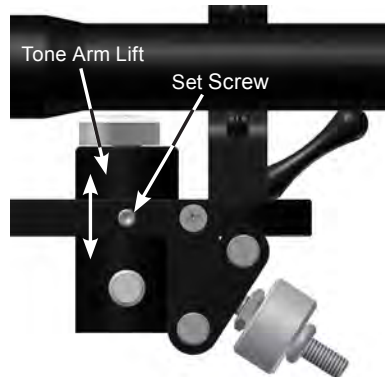

Figure 32
2. Using the appropriate tool, carefully loosen the Set Screw while supporting the bottom the Tone Arm Lift. Refer to figure 32.